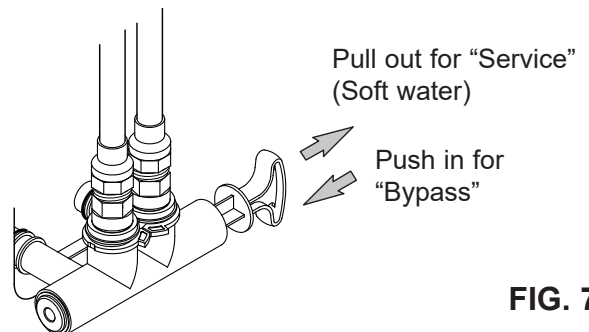

FIG. 7
Always install either a single bypass valve (provided), as shown in Figure 7, or, if desired, parts for a 3 valve bypass system (not included) can be purchased and assembled, as shown in Figure 8. Bypass valves allow you to turn off the water to the softener for maintenance if needed, but still have water in house pipes.
3. Place bypass valve(s) in "bypass" position (see Figures 7 & 8). On a single valve, slide the stem inward to bypass. On a 3-valve bypass, close the inlet and outlet valves and open the bypass valve.